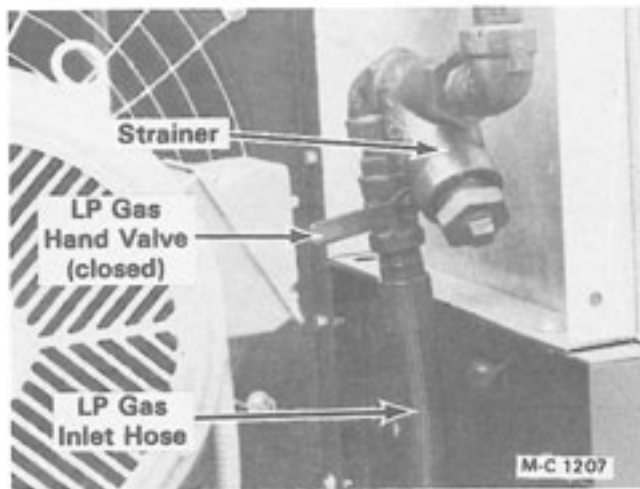

Figure 40 - LP Gas
3. **LP Gas** - Open the supply valve at the tank, the hand valve at the LP Gas inlet hose and open (lift up) the liquid line flip valve on each burner, see Figure 40 and 41.